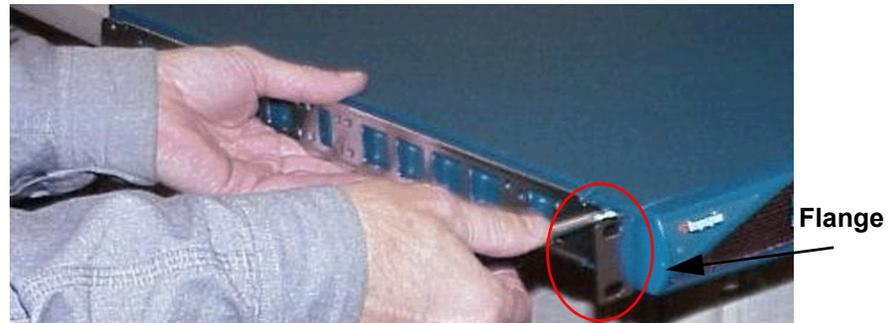

Figure 1-2: Attaching One Rail to Server Switch Chassis
2. Attach the rack bracket that has screw holes to the side of the chassis with the flange facing away from the switch, as shown in Figure 1-2.